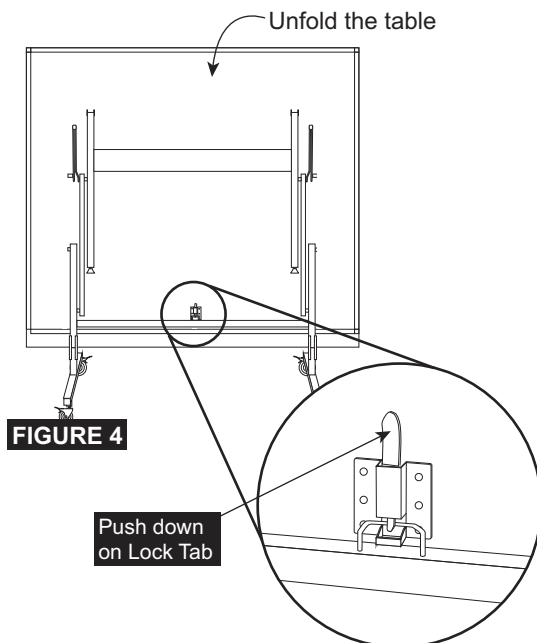

FIGURE 4
1. Remove the Net Set and push hinges up as shown in **FIGURE 4**.
1. Push down on Lock Tab to release lock as shown in **FIGURE 4**.